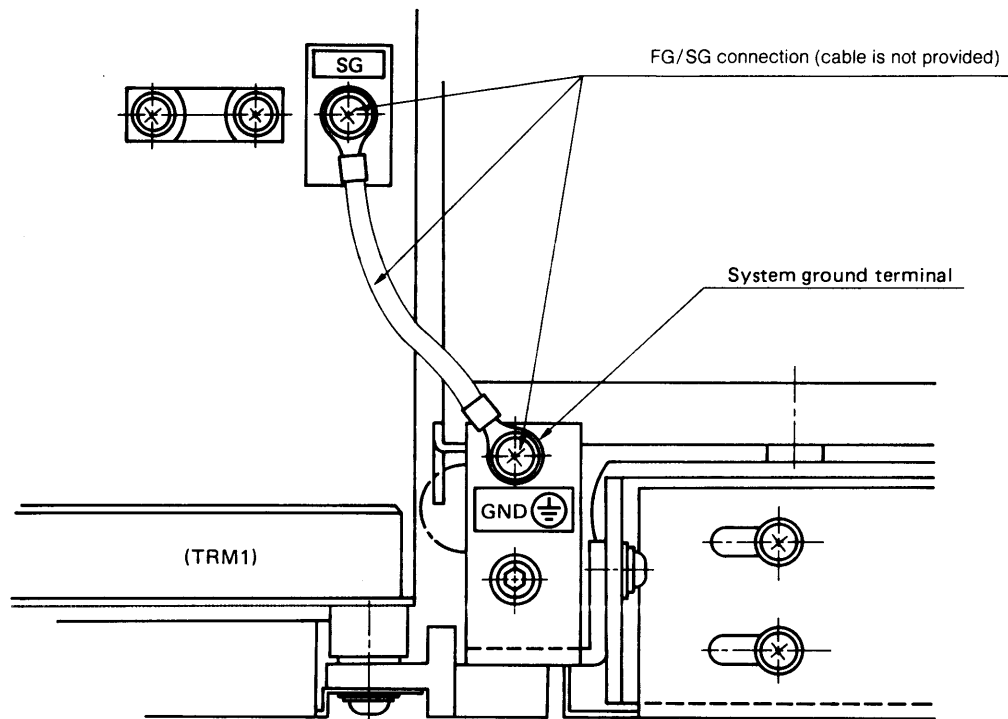

Figure 3-5-7 Ground terminal on the unit
- (1) The frame ground (FG) and signal ground (SG) within FDU are separated. If FG and SG connection is required on the system, connect the grounding cable as shown in Figure 3-5-7, or if system ground is required between the system and FDU, connect the ground conductor to the GND terminal.